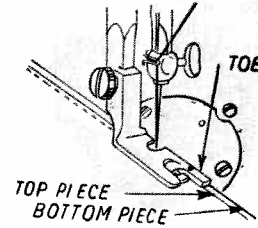

Fig. 33
1. Lay two pieces of cloth one on top of the other with their RIGHT sides facing each other. The right edge of the bottom piece must extend about $\frac{1}{8}$ inch beyond the right edge of the top piece. See Fig. 33.
2. Sew both pieces of cloth together using the hemmer foot like a regular presser foot. Use the right edge of long toe of hemmer foot to guide the bottom piece of material, while the left edge of the same toe serves as a guide for the top piece of material. Fig. 33 shows this detail.